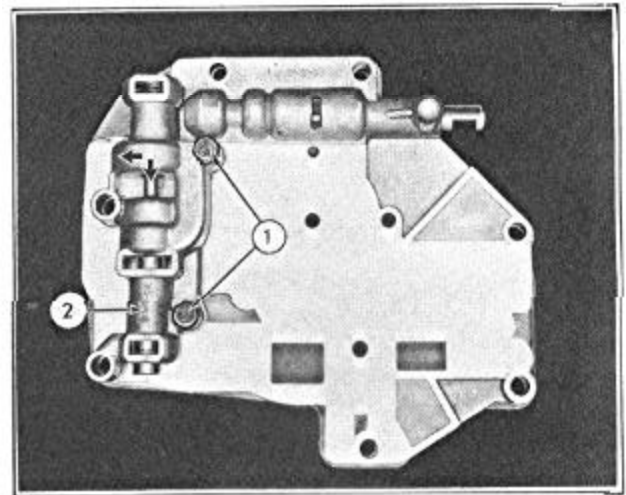

FIGURE 71
12. Place the relief valve body on the gasket and after aligning the holes, install the two cap screws (1), Figure 71. Move the relief valve body (2) as far as possible in the direction indicated by arrows and tighten screws finger tight.